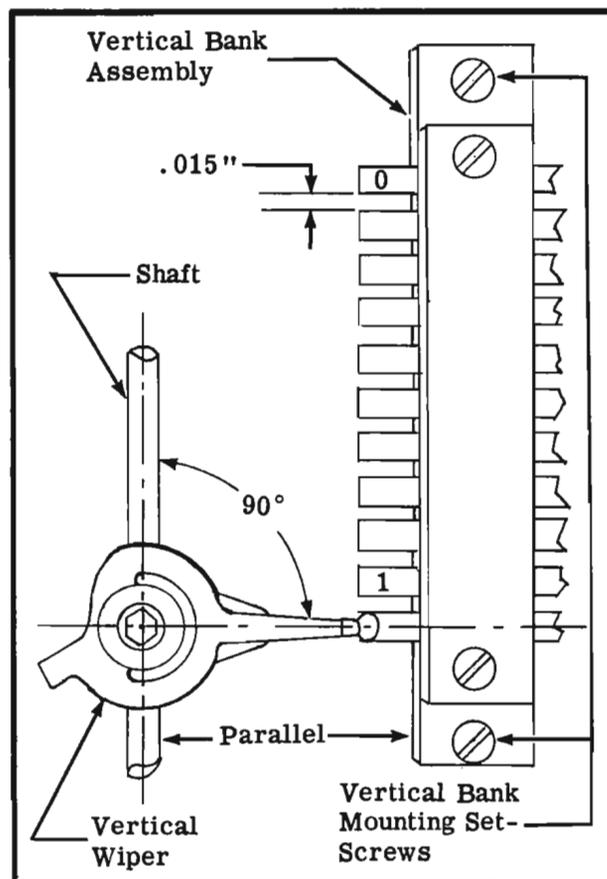

Figure 18. The Vertical Wiper Assembly and Vertical Bank is Shown With Related Requirements.
3.35 Check angle between vertical wiper and shaft (Fig. 18). If necessary, adjust by moving wiper assembly as required. Replace wiper assembly if requirement cannot be met.
3.36 Check that the vertical bank is parallel with the shaft (Fig. 18). To adjust loosen bank mounting screws with screwdriver and move as required.
3.37 Check that center line of vertical wiper is not more than .030" above nor .015" below center line of bank contact. Gauge by eye. Note that distance between vertical bank contacts is .015". See Fig. 18. Adjust wiper as required.